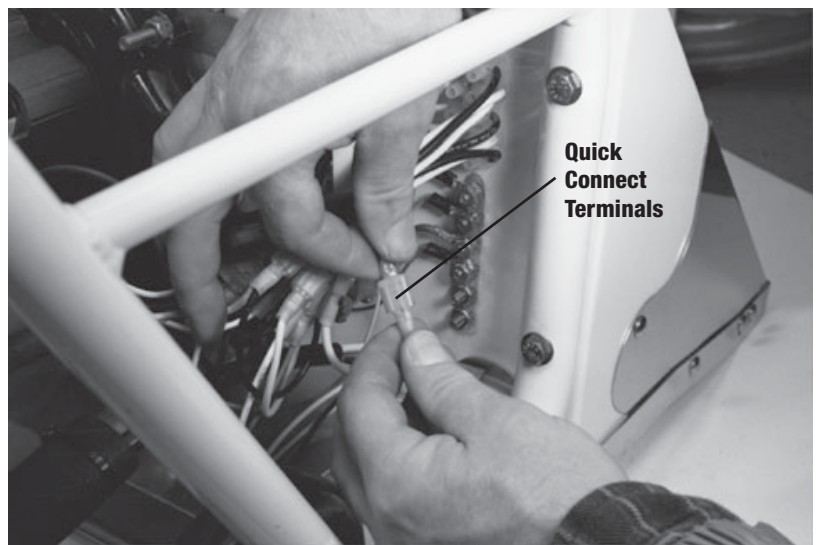

Figure 15
6. Disconnect vacuum motor's black and white wire at their quick-connect terminals (fig. 15).